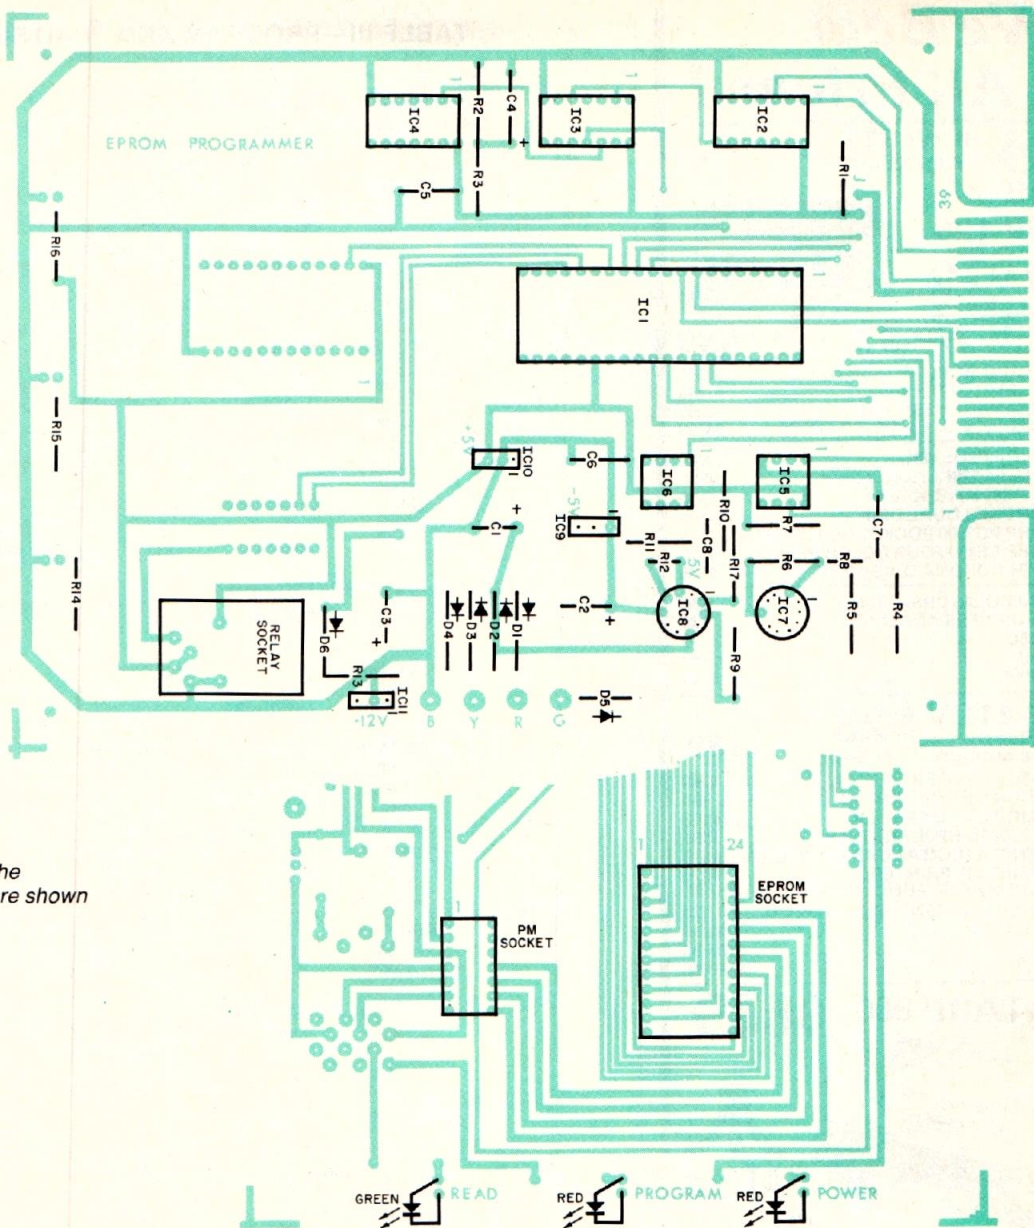

Fig. 7. Foil patterns for the double-sided pc board are shown on opposite page, while component layout is above and at right.
**Construction.** The EPROM Programmer is designed so that all components except for the ac power supply are mounted on a double-sided printed circuit board such as that shown in Fig. 7. The four lines from the transformer secondary (color-coded blue, yellow, red, and green) are soldered to the corresponding points on the printed circuit board marked B, Y, R, and G. Connection to the computer is done through a 40-pin card-edge connector that is compatible with the expansion bus of the TRS-80 CPU or Expansion Interface unit. All components are mounted on the bottom side of the board—except the zero insertion force EPROM socket, the personality module socket, and the indicator LEDs. These parts mount on top of the board. The printed circuit can be neatly mounted in a 7" by 6" by 3" aluminum enclosure using ¼-inch spacers and allowing the topside components to protrude through the top